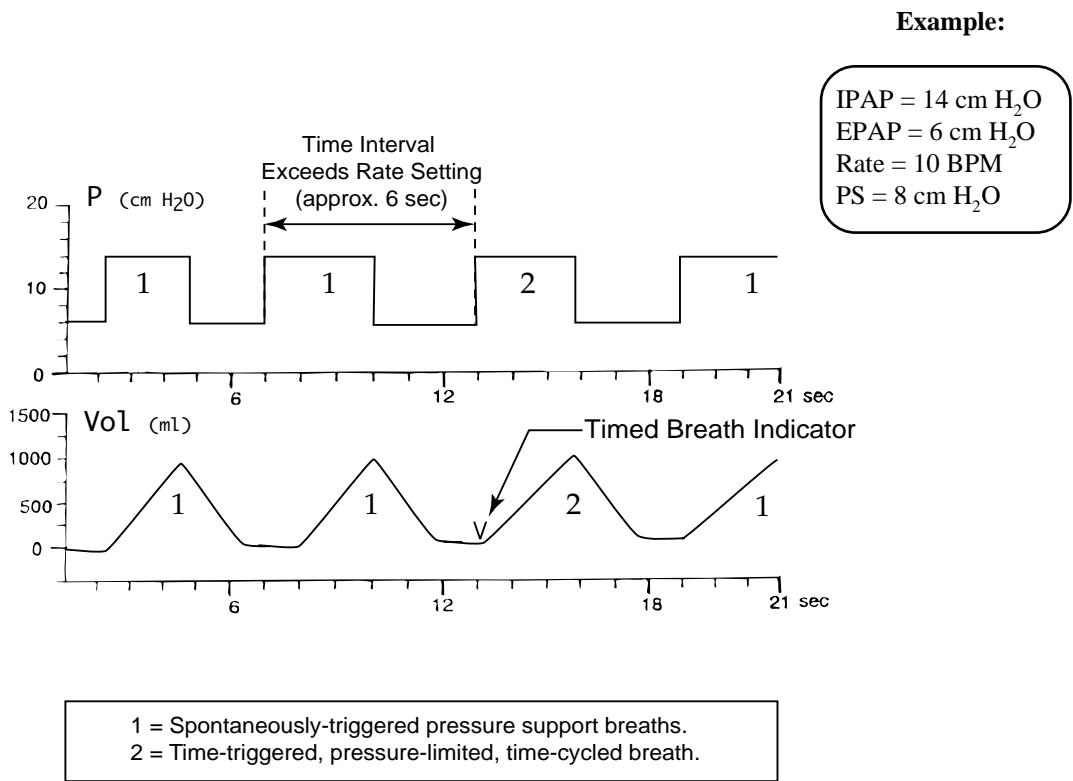

Figure 9-1. Example of Patient-Triggered and Machine-Triggered Breaths.
The S/T Mode ensures that patients will receive a minimum number of breaths per minute if their spontaneous breathing rate drops below the Rate setting. If the patient fails to initiate an inspiration within the interval determined by the Rate control, the unit triggers a timed breath resulting in a pressure-control (machine-triggered, pressure-limited, time-cycled) breath at the set IPAP level. The rate of timed breaths can be adjusted from 4 to 40 BPM and the duration of each breath is controlled by an Inspiratory Time control. The on-screen Rate display flashes when a timed breath is actuated. A (V) marker also appears on the Tidal Volume (V_T) graph to mark the start of a timed breath. See Figure 9-1 for an example.